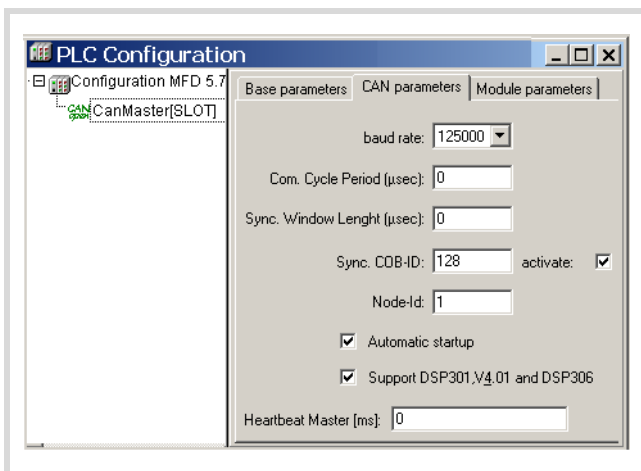

Figure 62: CAN Master: Node ID for basic communication
- ▶ The ID for basic communication is defined in the “CanMaster” folder in the “CAN parameters” tab (Figure 62).